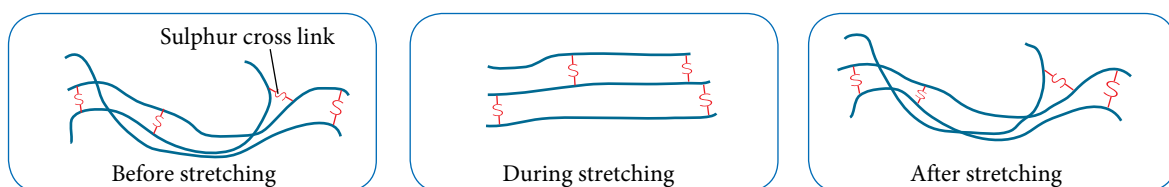

Figure 4.12 Illustration on the elasticity of vulcanised and unvulcanised rubber
- Vulcanised rubber has different characteristics from unvulcanised rubber due to the formation of cross-links during the vulcanisation process as shown in Figure 4.12.